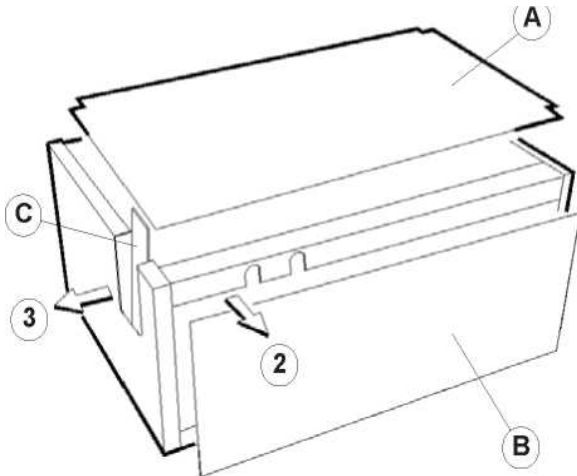

**Fig. 04**
If you install the condenser unit inside the vehicle, you must be careful to keep the flow of the sucked in outside air separate from that of the hot air driven out, and also prevent the expelled hot air from getting inside the vehicle. To separate the two air flows, use a soft sponge adhesive liner **Fig. 04 Ref. (3)**, placing it against the floor, in order to prevent the hot air coming out from **Fig. 04 Ref. (2)** from being sucked in through the opening **Fig. 04 Ref. (1)**.